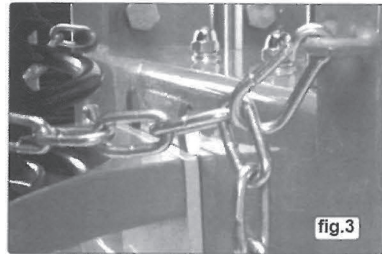

fig.3
6. Fit the chain to the left-hand side using a nut and bolt to fix in place. Remove the clip from the end of the chain and clip it into the hook on the other side of the compressor, the chain can then be fixed to the clip at the appropriate link as required (fig 3).